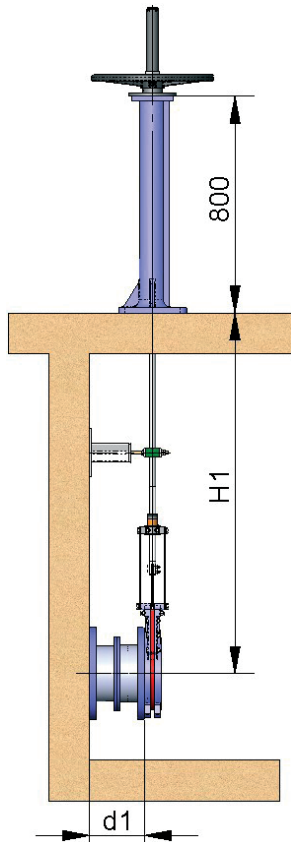

Fig. 11
- The standard floor stand is 800 mm high (fig. 11). Other floor stand measurements available to order.